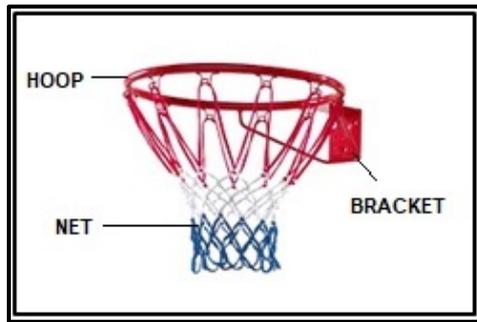

FIGURE 5.4
5.4 **FIGURE 5.4** shows an illustration of a basketball net, bracket and hoop. Calculate how much material will be required to manufacture the following basketball hoop with an internal diameter of 400 mm, using 16 × 16 mm square bar.